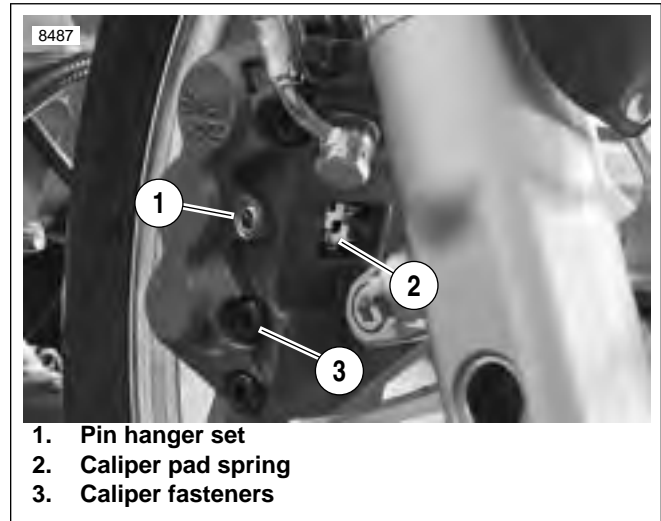

Figure 2-46. Pad Spring (Typical)
1. See Figure 2-46. Remove pin hanger set (1), caliper pad spring (2) and brake pads.